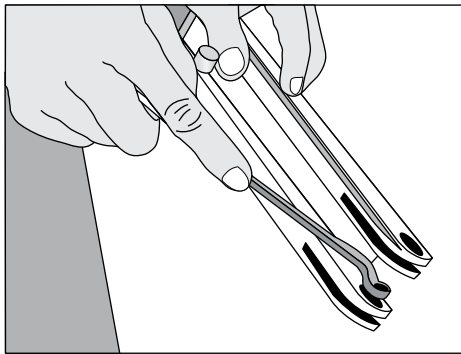

Figure 20
6. Loosen the rod with a 6mm offset wrench and remove the pusher guides. Remove the pusher. (See Figure 20)